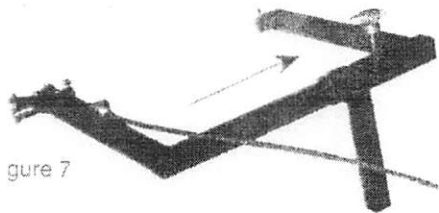

Figure 7
3. Assemble the nose gear attach fork by sliding the left side into the support arm (See Figure 7).